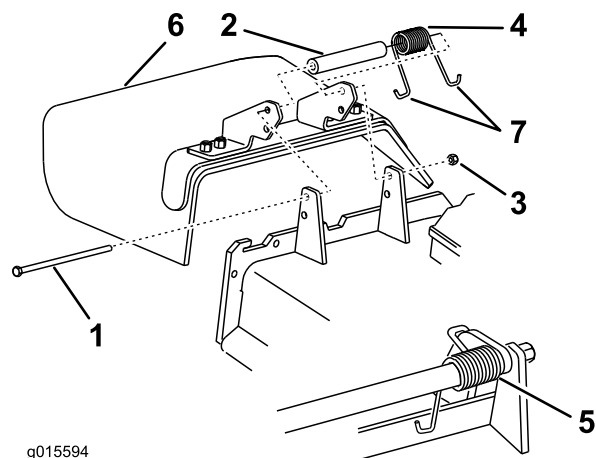

Figure 102
1. Remove the locknut, bolt, spring, and spacer holding the deflector to the pivot brackets (Figure 102).
Note: Ensure that a J-end of spring is installed behind deck edge before installing the bolt as shown in Figure 102.
5. Place a J-hook end of spring around grass deflector (Figure 102).